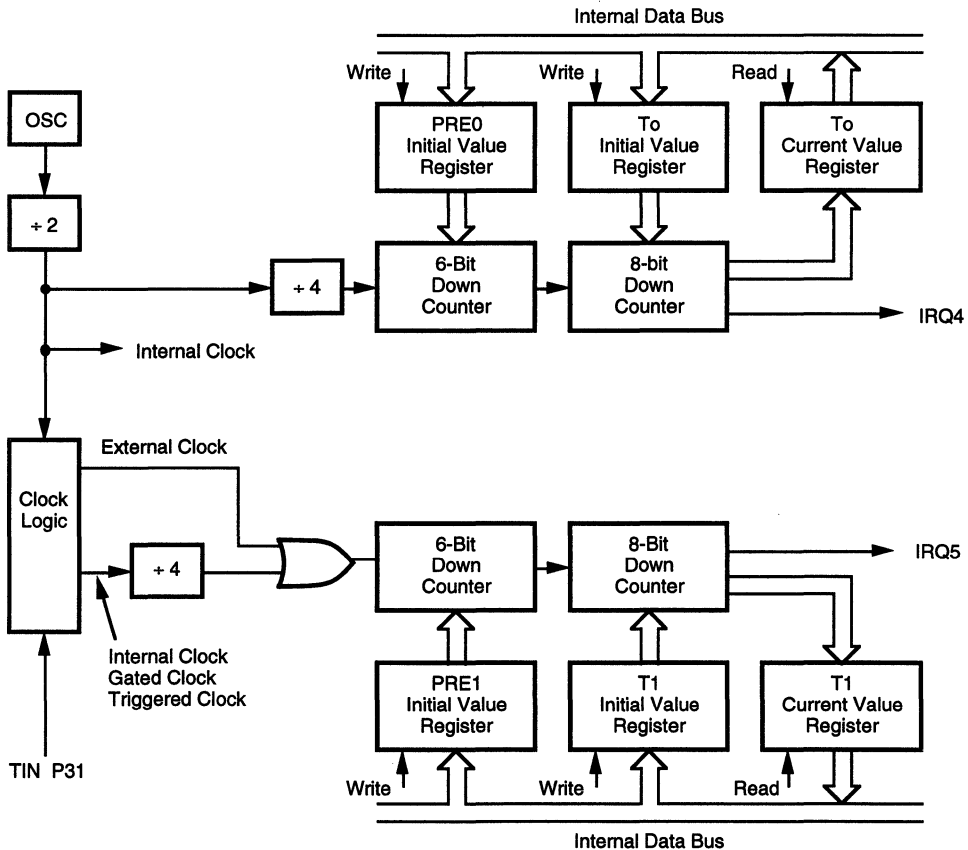

Figure 12. Counter/Timers Block Diagram
**Counter/Timer.** There are two 8-bit programmable counter/timers (T0 and T1), each driven by its own 6-bit programmable prescaler. The T1 prescaler is driven by internal or external clock sources; however, the T0 can be driven by the internal clock source only (Figure 12).